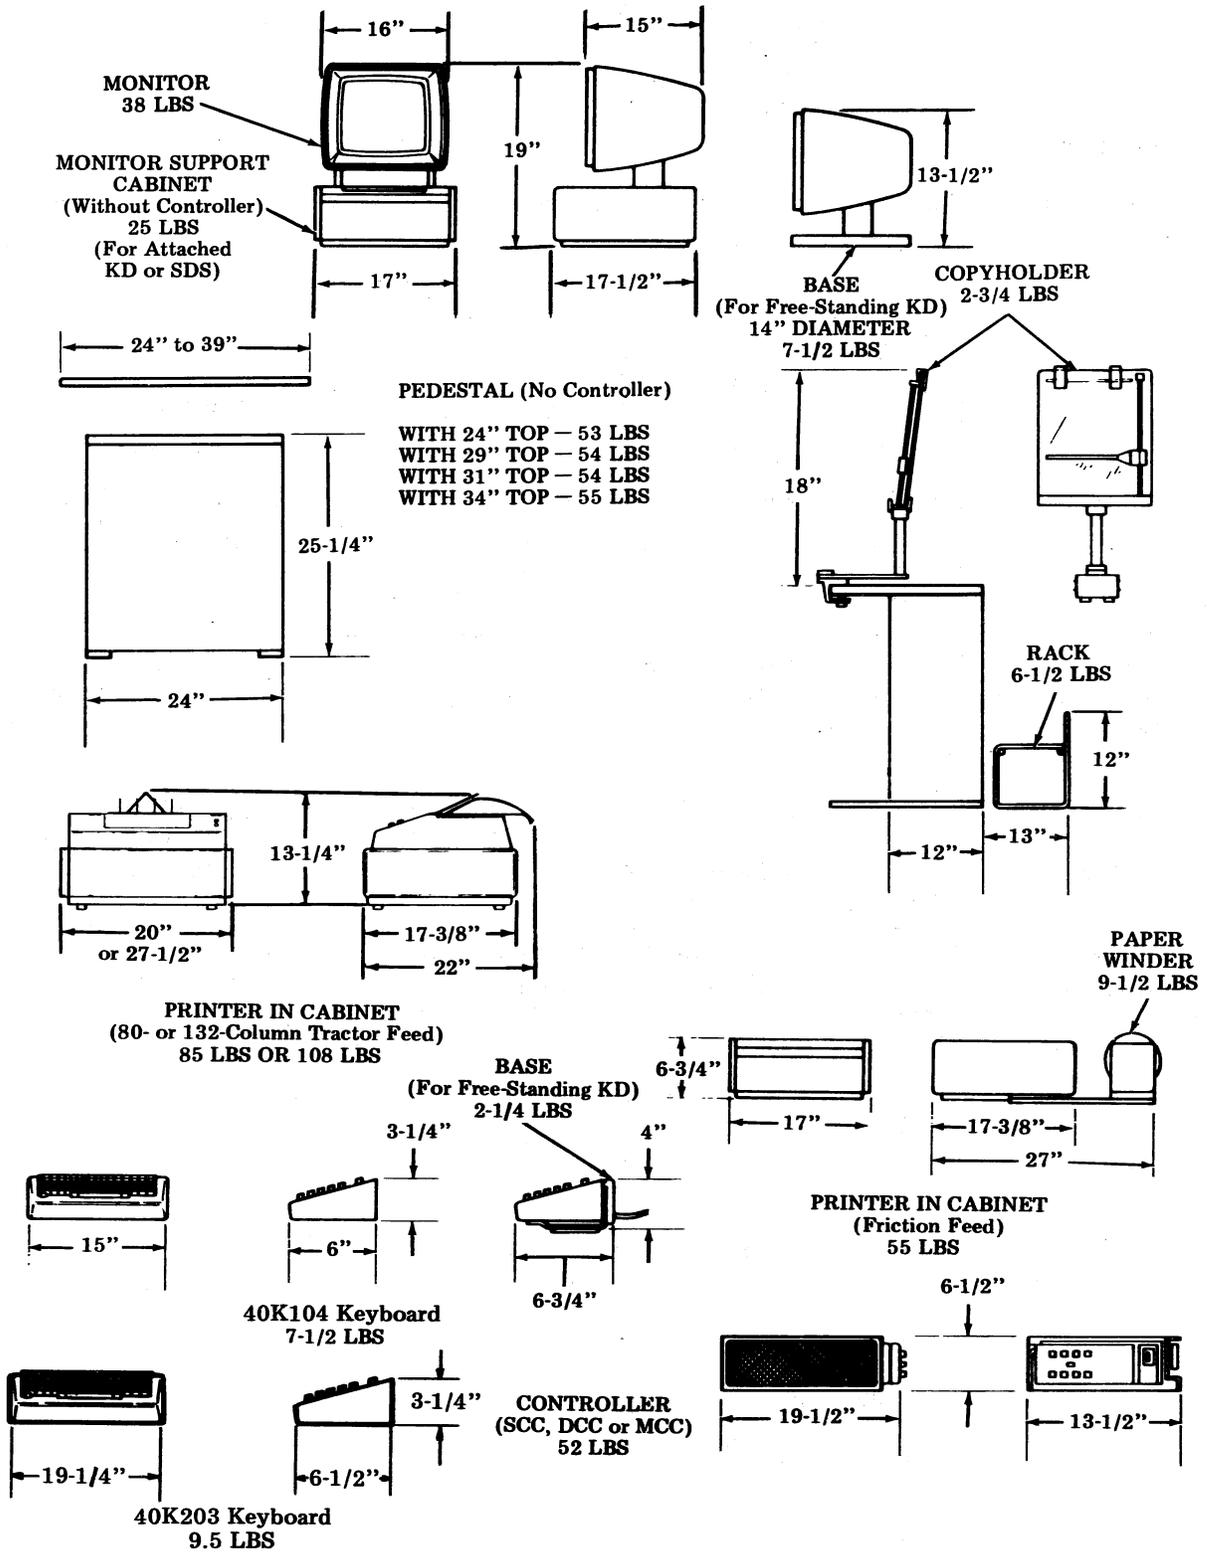

Fig. 7—Physical Dimensions and Weights
5.02 Physical dimension and weights of 40/4 components are shown in Fig. 7.